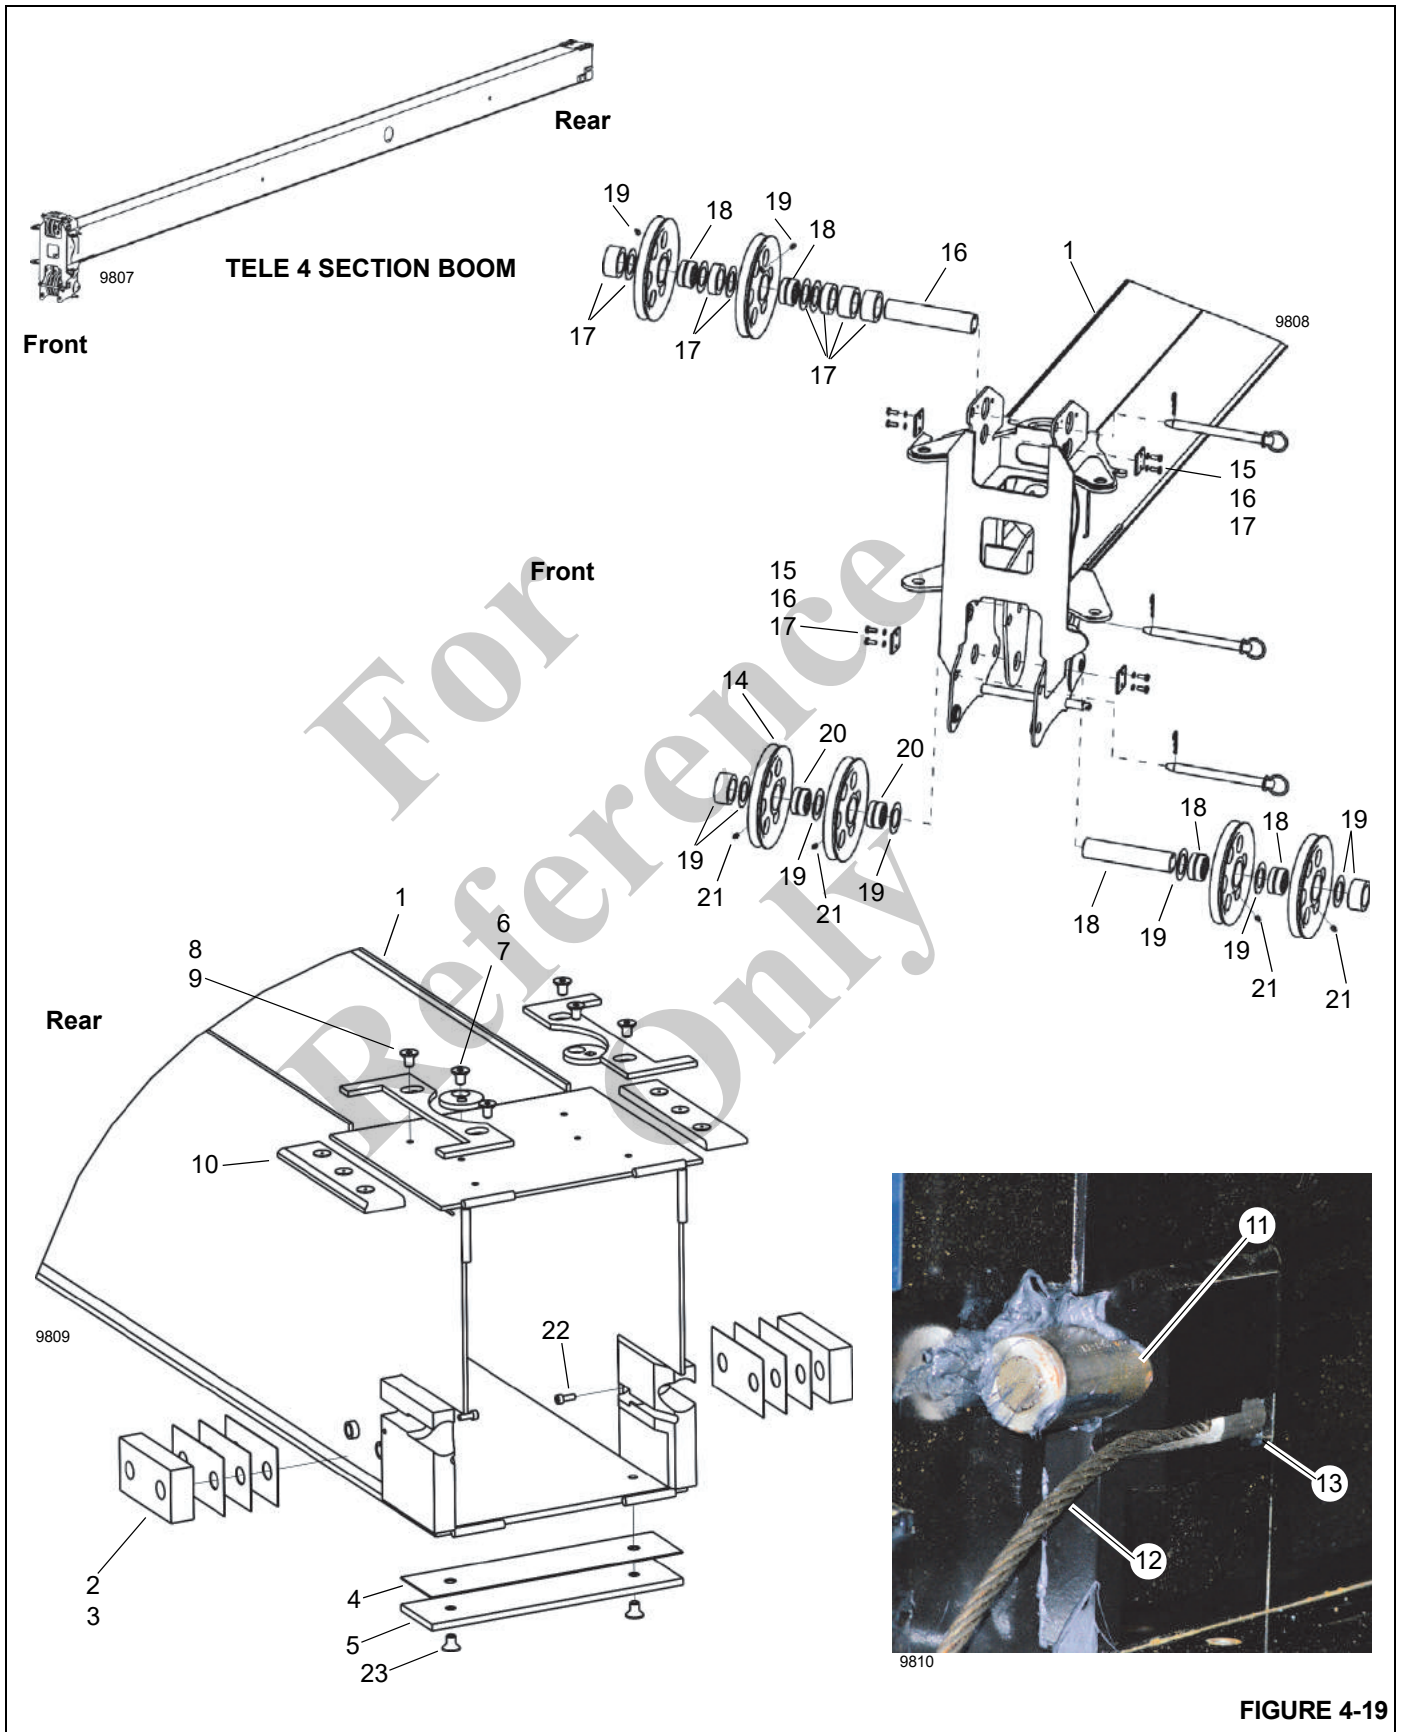

FIGURE 4-19
5. Remove capscrews (15), washers (16), wear pad plate weldment (17), and wear pad (18) as needed from the Tele 3 section boom (1).
6. Attach a sling or chain to the tip of the Tele 4 section boom (1, Figure 4-19) and pull Tele 4 section boom out approximately 1828 mm (6 ft).
8. Remove and tag capscrews (22) and bottom wear pads (23) from the tip of the Tele 3 section boom (1).
9. Remove and tag capscrews (24), shims (25), and wear pads (26) from the top of the Tele 3 section boom (1).
10. Remove sockethead capscrews (27) from 3/4/5 extend sheave pins (28) and remove 3/4/5 extend sheave pins while removing 3/4/5 extend sheaves (29).
13. If necessary, tag and remove wear pads (3, Figure 4-19) and shims (2) from the rear of the Tele 4 section boom.
14. If necessary, tag and remove capscrews (23), wear pads (5), and shims (4) from the rear of the Tele 4 section boom.
Table 4-5 Tele 4 Section Boom Figure 4-19 Item List
1. Assemble and then install sheaves (14, Figure 4-19) and bearings (20) into the boom nose sheave case.
1. Install 3/4/5 extend sheave pins (28) and bearings (30) into 3/4/5 extend sheaves (29). Install wear plugs (31) into holes on each side of extend sheaves. Loop 3/4/5 extend cables (11, Figure 4-19) around 3/4/5 extend sheaves (29, Figure 4-18) and install 3/4/5 extend sheaves into the Tele 3 section boom. Install retaining capscrews (27) into 3/4/5 extend sheave pins (28) and torque. Install grease fittings (32) into the center of the 3/4/5 extend sheave pins (28).
2. Install upper side wear pads (26) with shims (25) and capscrews (24). Install the lower side wear pads (21) with shims (20) and capscrews (19) on front inside of the Tele 3 section boom.
3. Install the cable guide (33) with wear pad (34) and related hardware (35, 36, and 37) on the top front of the Tele 3 section boom. Push Tele 4 section boom into the Tele 3 section boom until top wear pads on base of Tele 4 section boom (10, Figure 4-19) are accessible through the access hole in the rear of the Tele 3 section boom. Center the Tele 4 section boom within the Tele 3 section boom, then adjust the top wear pads according to the calibration instructions in this section. Push the Tele 4 section boom completely into the Tele 3 section boom keeping 3/4/5 extend cables taut and scribe a mark in the tip of the Tele 4 section boom in front of side wear pads on the Tele 3 section boom for retract sequencing (Figure 4-31).
5. Push button ends of 5/4/3 retract cables (12, Figure 4-19) through openings in the bottom base of the Tele 3 section boom and drape button ends out of the back of the Tele 3 section. Pull threaded ends of 5/4/3 retract cable (12) towards tip of boom. Install 5/4/3 retract-2/3/4 extend pin (21, Figure 4-16) into retainer at
base of Tele 3 section boom. Loop 5/4/3 retract cables (12, Figure 4-19) over pin (21, Figure 4-16) and install button end of 5/4/3 retract cables (13, Figure 4-19) into anchor plates at the bottom base of the Tele 4 section boom. Secure with setscrews (22).
NOTE: Use caution to keep 5/4/3 retract cables (12, Figure 4-19) taut, not crossing cables and keeping all cables clear of pinch points created by slings and bottom pads.
4. Assemble 5/4/3 retract cable keepers (18) onto 5/4/3 retract cables (12, Figure 4-19), double nut just beyond flat at threaded end of retract cables and assemble at bottom tip of Tele 2 section boom.